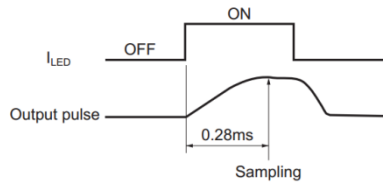

Figure 2: Sampling timing of output pulse
- 2) Wait 0.28ms, then the external controller starts to sample the voltage from the pin  $A_{OUT}$  of the module. Notes that the output wave will take 0.28ms to reach steady state after the internal infrared emitting diode is enabled, as Figure 2 shows.